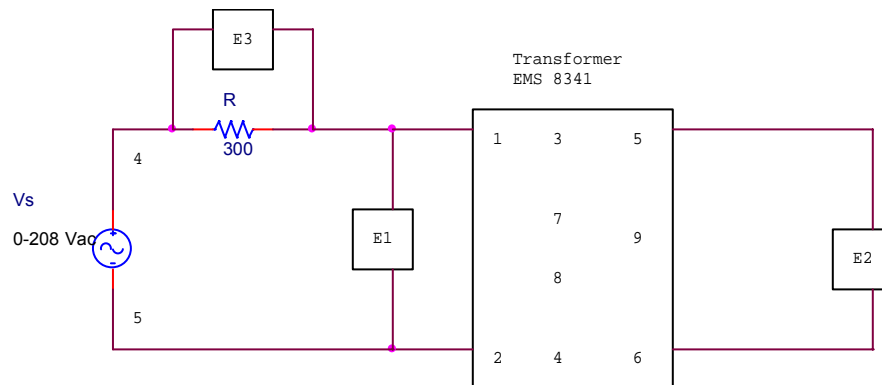

Figure 3 Single Phase Transformer Circuit for part three.
14. Construct the circuit of Figure 3, which will be used to display the effect of core saturation. Since the exciting current is small the voltage E1 across the resistor will be used to show its variation.
Table 3. Data for circuit of Fig. 3